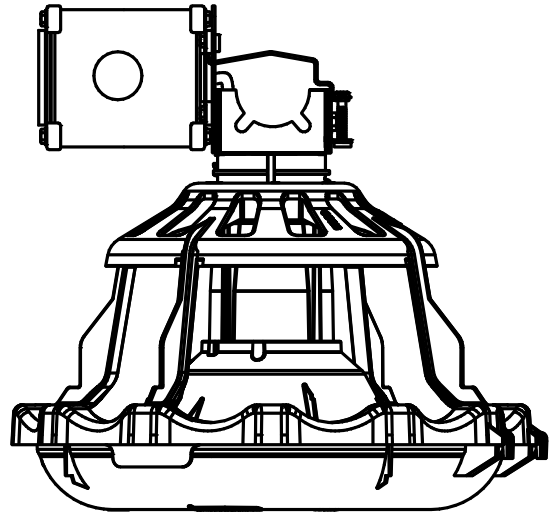

Figure 66. Electronic Control Installation
1. Assemble the Mid-Line Control to the Feeder Tube, as shown in **Figure 66**.
2. Attach the Switch Box Assembly to the Feeder Tube with Hose Clamps as shown in **Figure 66**.